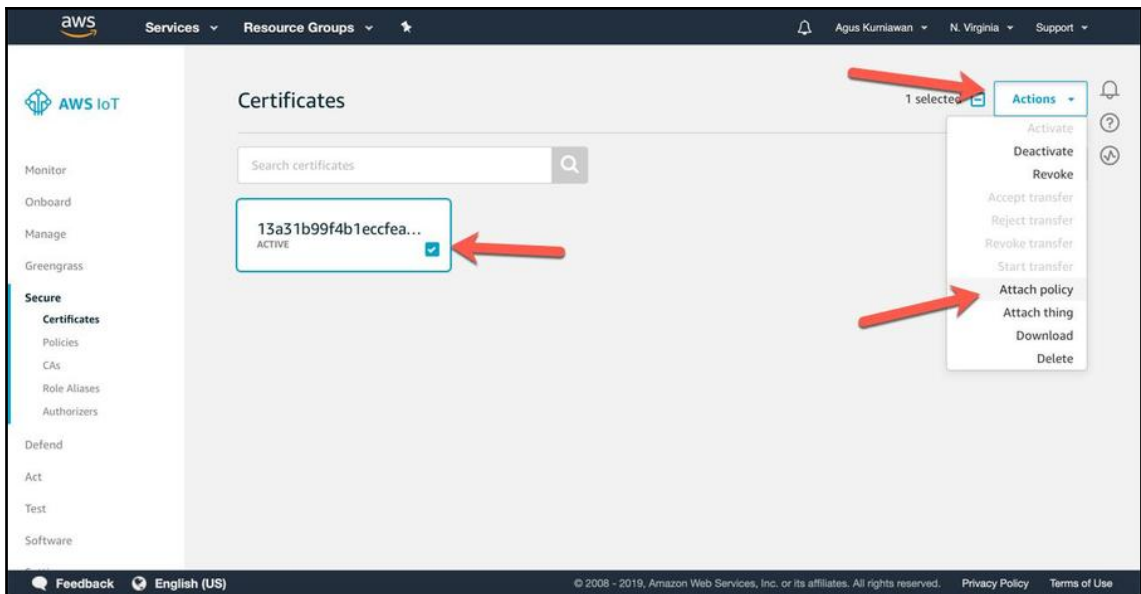

Figure 10.9: Attaching a security policy into a certificate
11. Click on **Attach policy** in the drop-down, as shown in *Figure 10.9*: